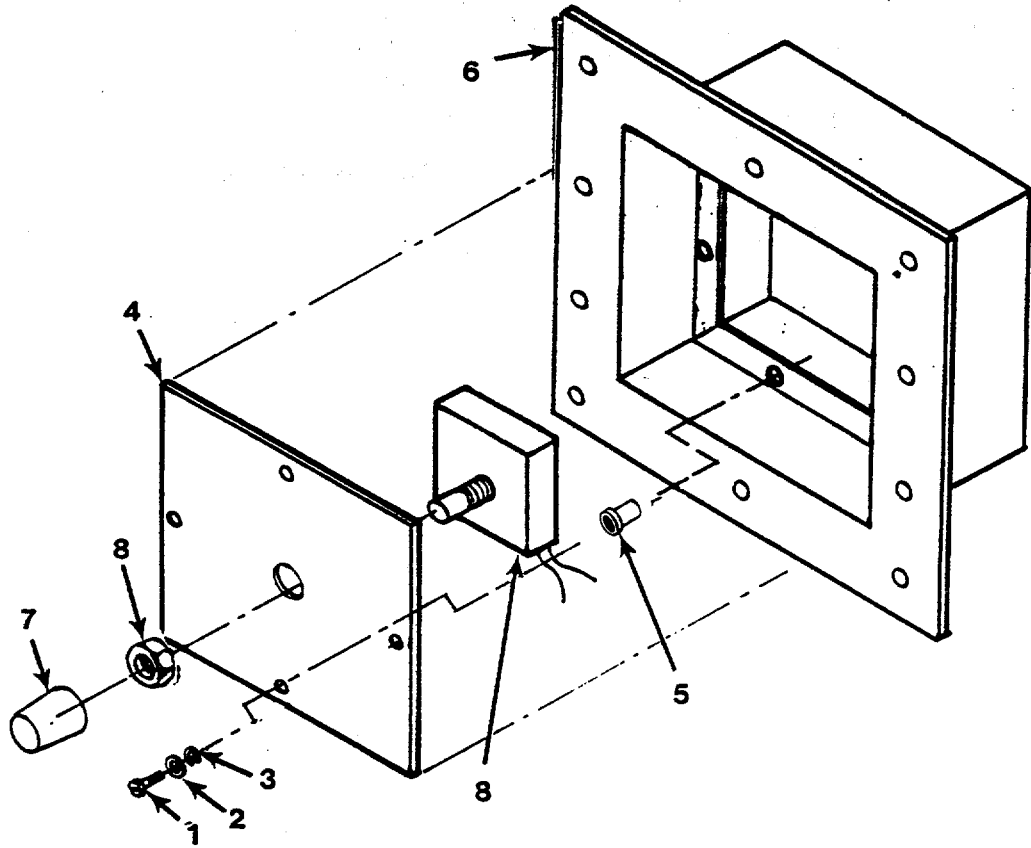

Figure 33. Blackout Switch Assembly
| (1) ITEM NO | (2) SMR CODE | (3) CAGEC | (4) PART NUMBER | (5) DESCRIPTION AND USABLE ON CODES(UOC) GROUP 17 BLACKOUT BUZZER ASSEMBLY FIG. 33 BLACKOUT SWITCH ASSEMBLY | (6) QTY |